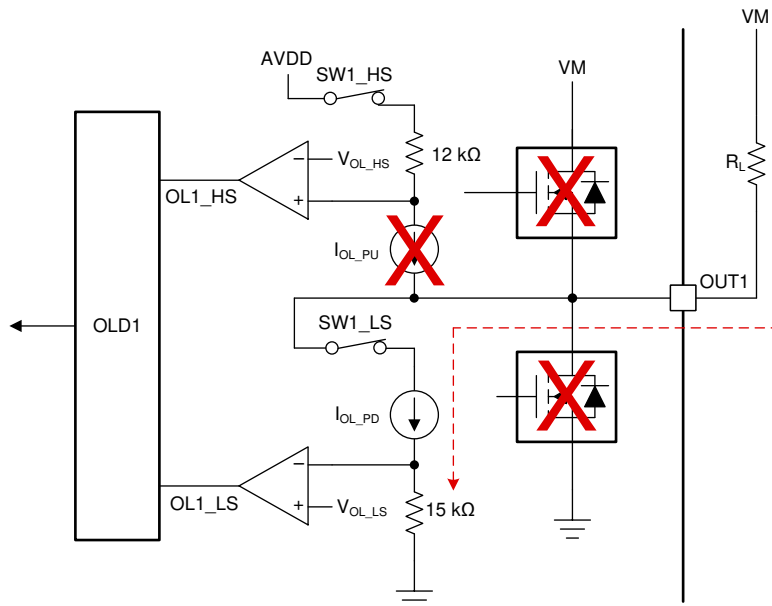

图 61. Open Load Detect Circuit for Load Connected to Supply Voltage (VM)
OLD circuit consists of four main components i.e. current source (and current sink), series sequencing switches (sequenced by the digital core), resistors and comparators. For ground (GND) connected load, the current source ( $I_{OL\_PU}$ ) pulls up the OUTx node to internal regulator voltage (AVDD) and allows the current to flow from internal regulator voltage (AVDD) to ground via the connected load as shown in 图 59. Moreover, for the supply (VM) connected load, the current sink ( $I_{OL\_PD}$ ) pulls down the current from supply voltage (VM) to ground via the connected load as shown in 图 61. The resistance of the load connected at the OUTx terminal will change the source / sink current and indirectly the voltage drop across two resistors (12-kΩ and 15-kΩ). This voltage drop across resistors is compared with the reference voltage ( $V_{OL\_HS}$  and  $V_{OL\_LS}$ ) by the internal comparators to give the output as OL1\_HS and OL1\_LS. This comparator output is fed to the open load digital circuit to determine the open load condition.
8.2.3.3 OLD for Supply (VM) Connected Load
图 61 shows the supply (VM) connected load with internal OLD circuit. When low-side open load sequence is activated (i.e. SW1\_HS is off and SW1\_LS is on), the current sink ( $I_{OL\_PD}$ ) pulls down the  $OUT1$  node to supply voltage ( $V_{VM}$ ) and current flows from supply (VM) to ground via the connected load ( $R_L$ ). Now, depending upon if the load is present or not, there can be three cases as follows: